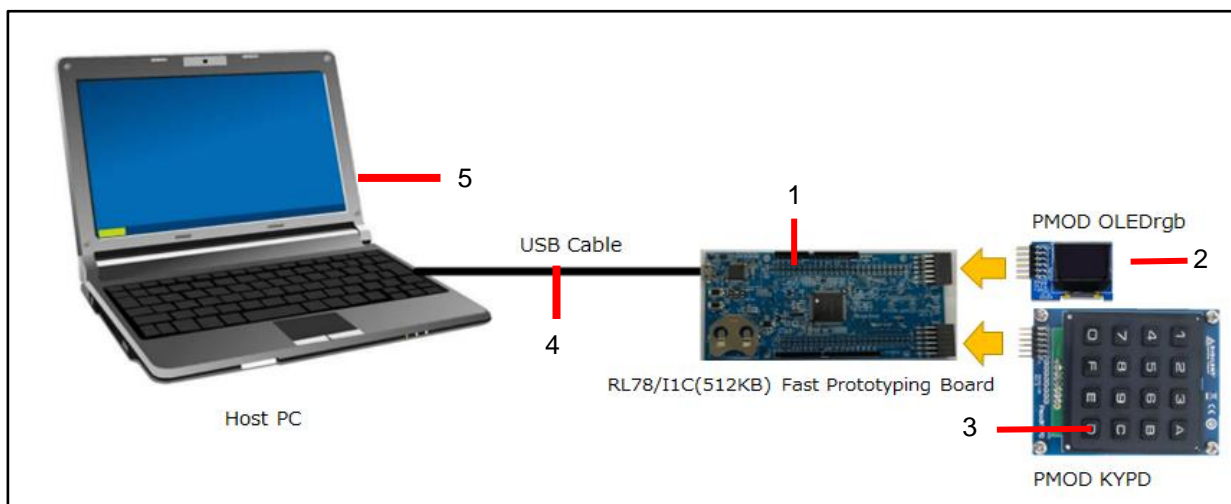

Figure 1-1 : Hardware Requirements
| Figure 1-1 : Hardware Requirements .....  | 5  |
**Hardware Requirements:** (Figure1-1)